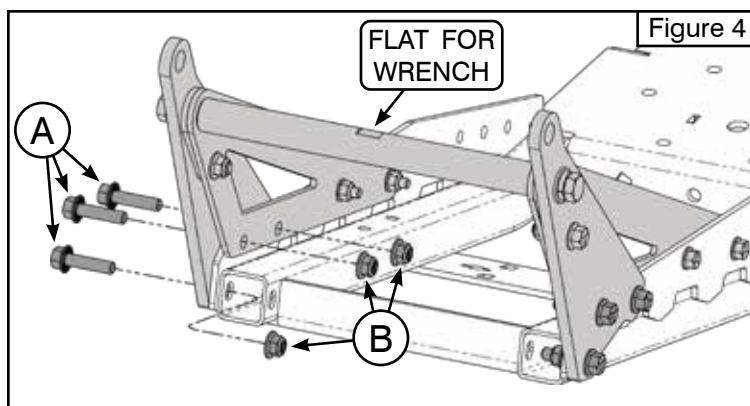

Figure 4
Note: The ideal pin height is 10.875". Use leveling kit configuration accordingly. (see figure 4) Be sure suspension is settled before measuring on flat level ground.
5. Reinstall bolts (A) and nuts (B) removed in **Step 1** into their original positions. See **Figure 4**.